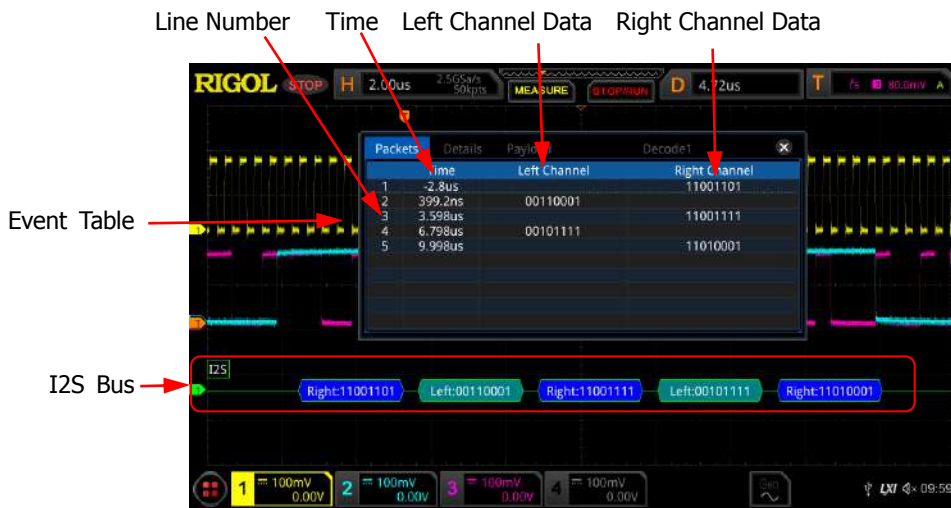

Figure 11-14 I2S Decoding Event Table
- Open or close the event table: Click **Event Table** continuously to enable or disable the event table. When you enable the event table, the following figure is displayed, as shown in Figure 11-14. You can click on the icon **X** at the upper-right corner of the table to close the event table. Besides, when the operating status is "STOP", select a specified line and view the corresponding decoding information.